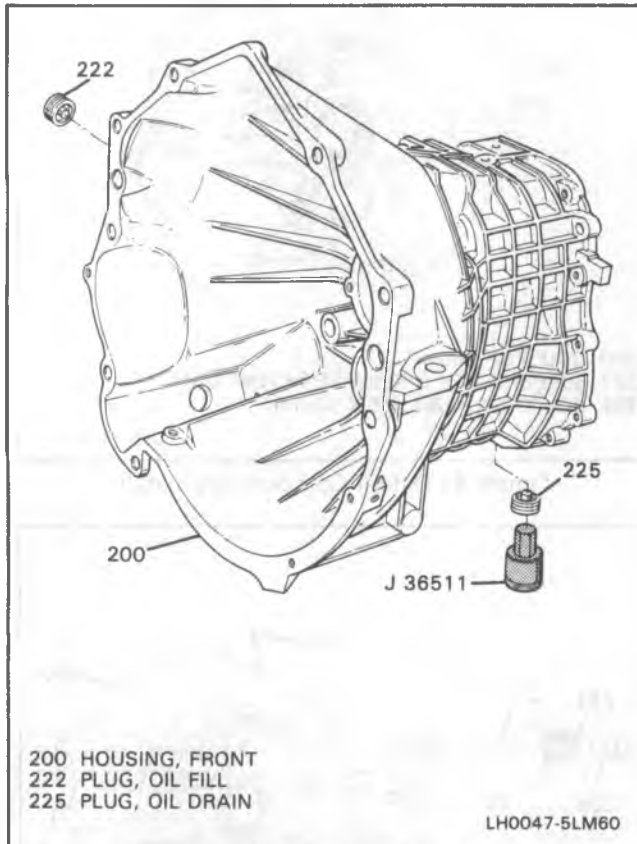

Figure 46 Oil Fill/Drain Plugs Install
11. Breather assembly (223).
12. Oil fill plug (222) and oil drain plug (225), using J 36511 torque drain plug to 60 N·m (44 lb. ft.) (Figure 46).
13. Shift shaft/rails plugs (221)